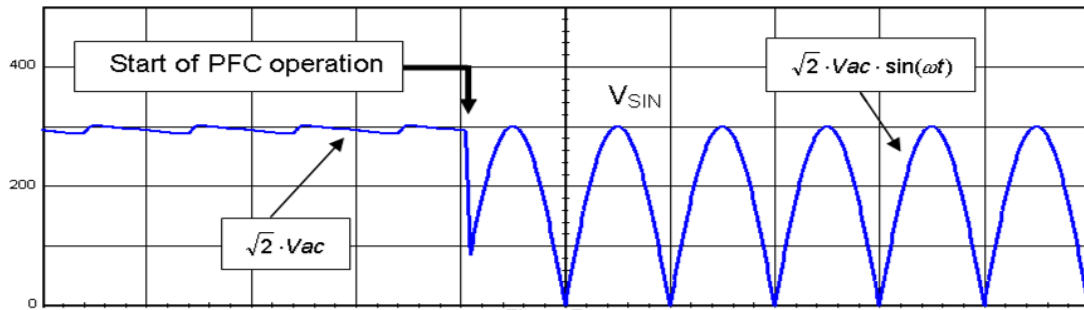

Figure 23. Typical Input Voltage of a PFC Stage
- ♦ Before operation, the PFC stage is off and the input bridge acts as a peak detector (refer to Figure 23). As a consequence, the input voltage is approximately flat and nearly equates the ac line